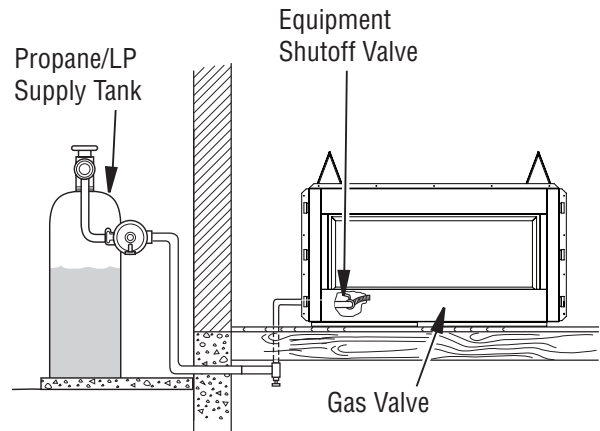

Figure 14 - Checking Gas Joints for Propane/LP Gas Fireplace
3. Check all joints from gas meter to equipment shutoff valve for natural gas or propane/LP supply to equipment shutoff valve for propane/LP (*see Figures 14 or 15*). Apply noncorrosive leak detection fluid to all joints. Bubbles forming show a leak.
4. Check all joints from equipment shutoff valve to gas control valve (*see Figures 14 or 15*). Apply noncorrosive leak detection fluid to all joints. Bubbles forming show a leak.